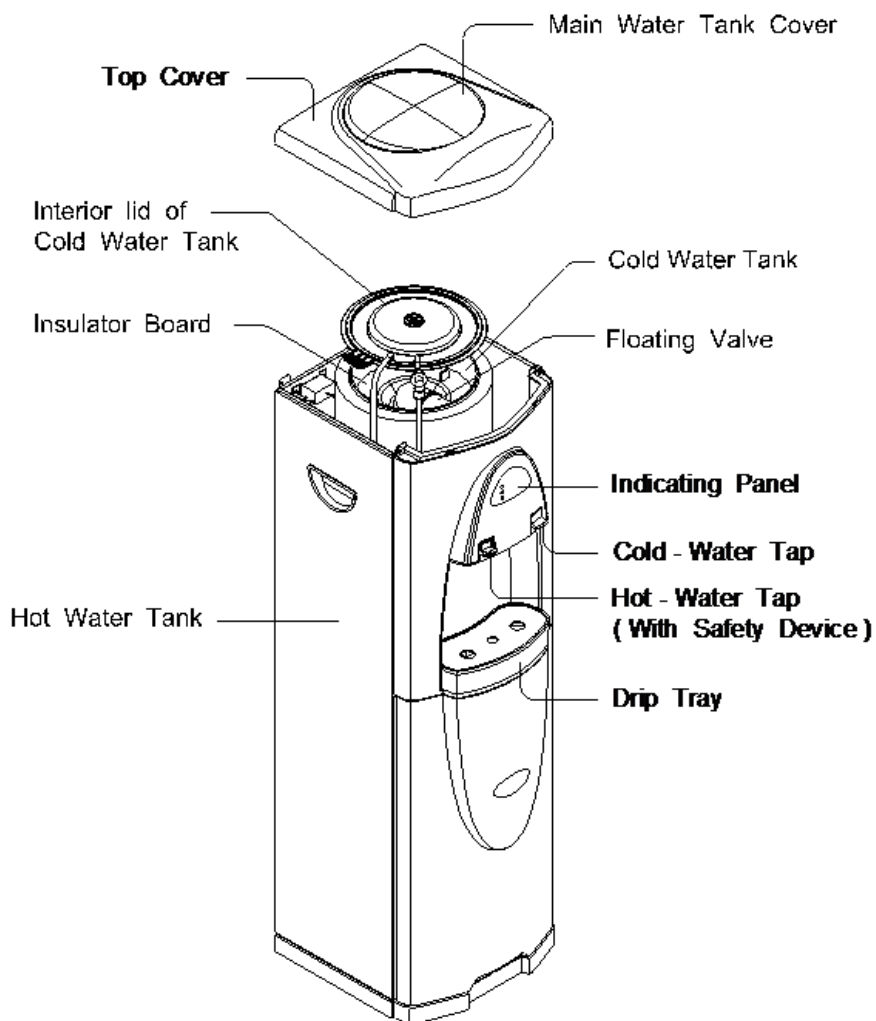
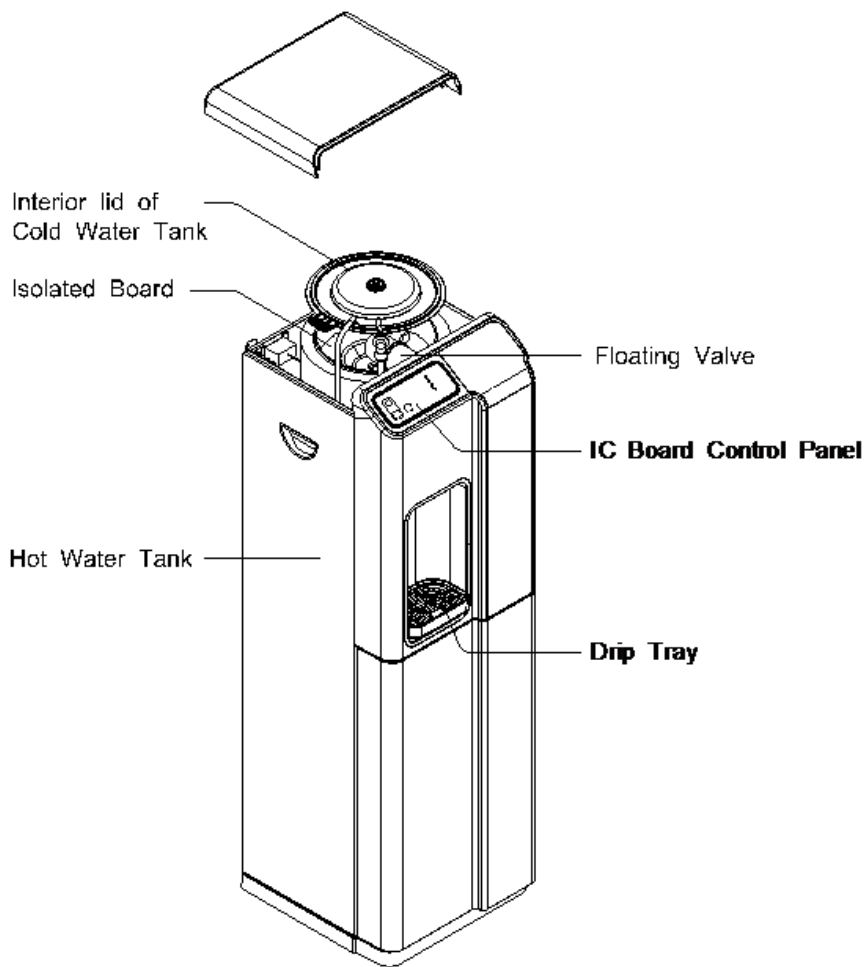

Figure 1. *Assembly Drawing Model G3*
Figure 2. Assembly Drawing Model G4
The Models G3 and G4 both provide water at two temperatures. The water is dispensed from two spigots—one “hot” and one “cold.” The assembly drawing is shown in Figure 1 for the G3 and Figure 2 for the G4. Water flows from the filter system into the top tank, also known as the cold water tank. This tank then feeds the hot tank that is heated by internal heaters. The level in the cold water tank is controlled by a float valve mechanism. This mechanism controls a solenoid valve on the water feed line to maintain a constant level of filtered water. Both models are available with reverse osmosis (RO) or standard filter (F) versions.